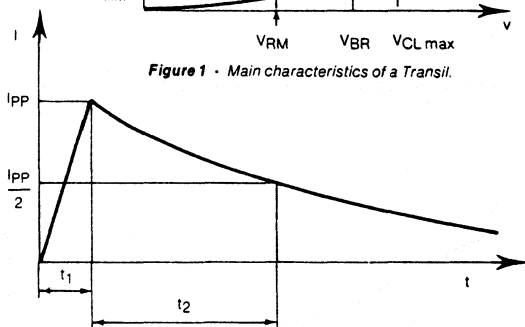

Figure 2 - Standard exponential pulse. This type of pulse corresponds to most of the standards used for the protection of electronic equipment.
3). THE CLAMPING VOLTAGE V_{CL} as specified in the data-sheets in the maximum value for the «standard» pulse with a peak value of I_{PP} , specified for any type of TRANSIL. (Fig 2).
The first protection devices, designed to meet electrotechnical standards, often had an iso-energetic behaviour, and they were mostly used for short over voltages (of the 1/50 μs wave type) encountered on high voltage lines. The research carried out by the CNET (French Telecommunications Agency), confirmed by research abroad, tends to show that low-power electronic equipment is subjected to over voltages of a much longer duration, better represented by 10/100 μs exponential wave is Fig 2.